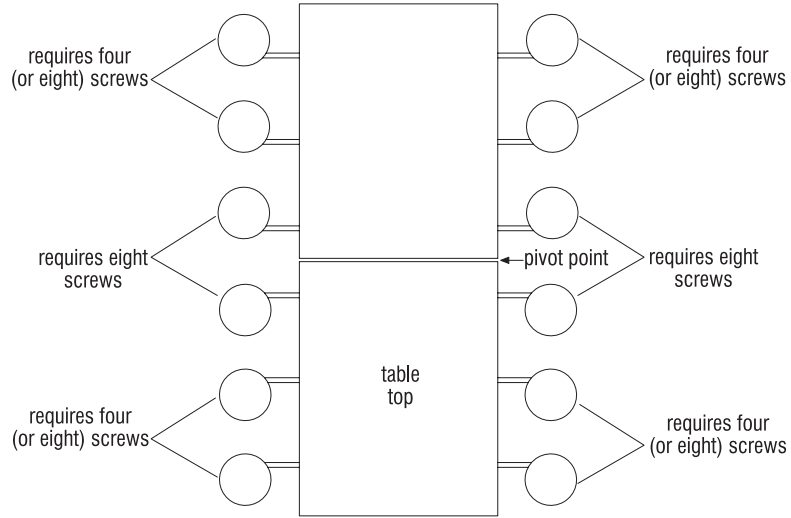

Figure 2
4. Install the latch onto the center cross bar mount bolt. Replace the washer on the bolt and cover the bolt with the lock nut (Figure 2).
6. Stools that will be installed near the pivot point of the table are required to use all eight mounting locations. Stools located away from the pivot location are only required to use the four outer corner mounting locations (Figure 2).